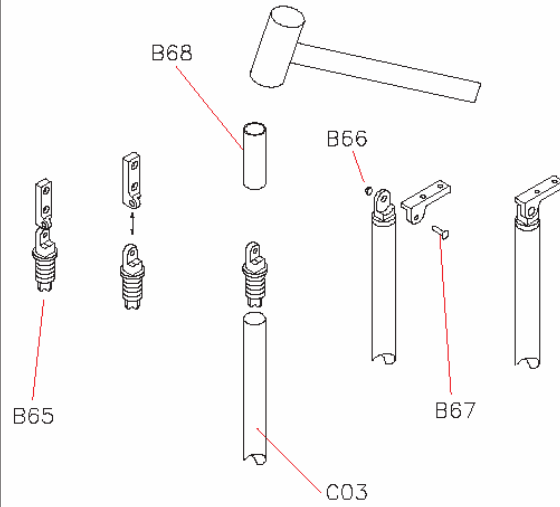

FIG. 4
7. Determine and mark on the floor the center of the hole, then position the base (G03+B17+B46) (fig. 4).